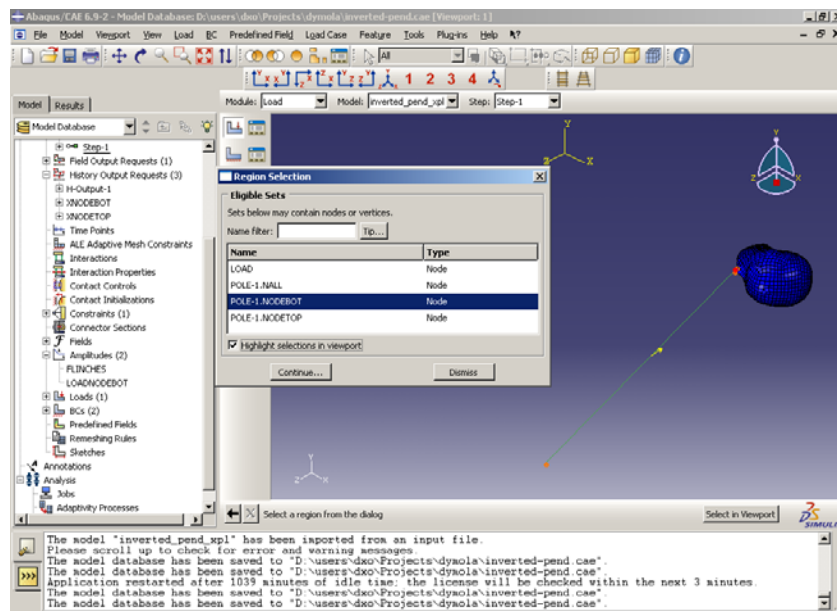

Figure 5-8 Node set selection for CLOAD
- Before running the co-simulation, it is very important to define an actuator driven feature (like a load) in the Abaqus/CAE model – otherwise, the actuator will not have any effect. A load that will use the **LOADNODEBOT** actuator will be created in the Abaqus/CAE model. Switch to the **Load** module. Click the **Create Load** icon from the toolbox area. Give an appropriate name for the load, select **Mechanical** for **Category** and select **Concentrated force** under **Types for Selected Step**. Click **Continue...** to select the points for the load. Click **Sets...** in the prompt area of the viewport. In the ensuing **Region Selection** dialog box, select the **POLE-1.NODEBOT** node set (as shown in Figure 5-8) and click **Continue....** In the subsequent **Edit Load** dialog box, specify a value of **-1** for **CF1** and choose **LOADNODEBOT** for **Amplitude**.